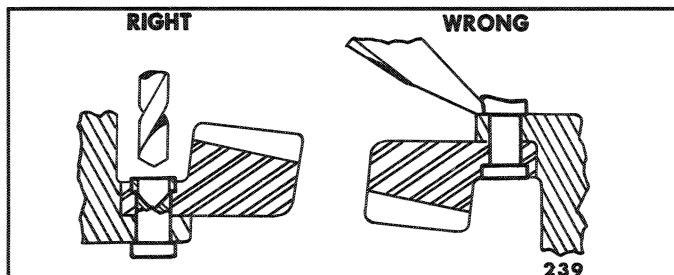

Figure 11—Removing Ring Gear Rivets
1. Drill through the rivet heads, Figure 11, using a $\frac{7}{16}$ " drill. Press out the rivets and remove the ring gear.